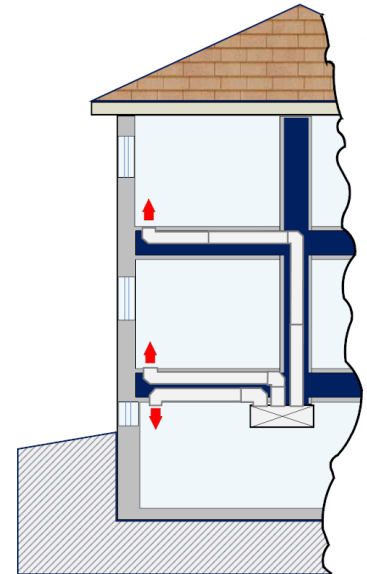

Figure 5: Perimeter supply design
- Ceiling outlets (e.g. in basements) as shown in Figure 5.